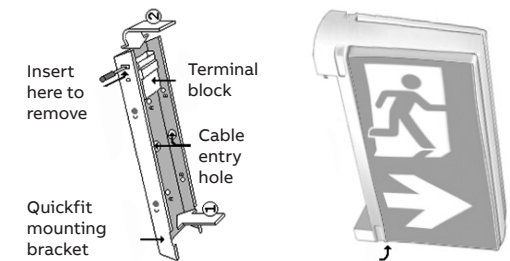

Figure 2: Quickfit vertical wall mounting
2. The exit must only be installed as per figure 2, that is, with the terminal block at the top. This is to ensure that the exit is securely held and cannot inadvertently slide out of the bracket.